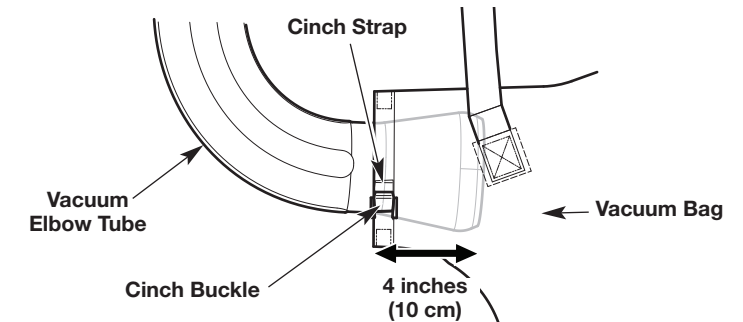

Fig. 9
5. Insert the flared end of the vacuum elbow tube approximately 4 inches (10 cm) into the vacuum bag (Fig. 9).
6. Pull the cinch strap to tighten the vacuum bag around the vacuum elbow tube (Fig. 9).